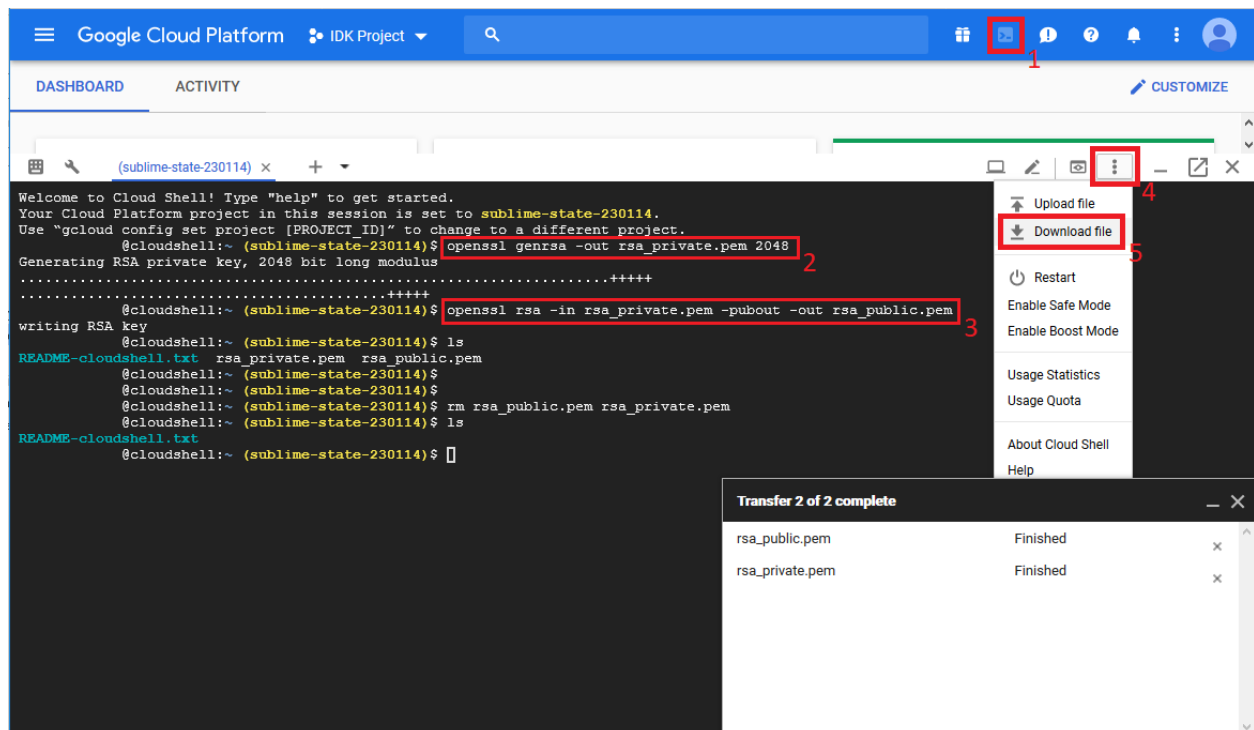

Figure 3. Steps for Generation of Public/Private Key Pair using Google Cloud Shell
1. Activate Cloud Shell from the toolbar of Cloud UI web page as shown in Figure 3 step 1